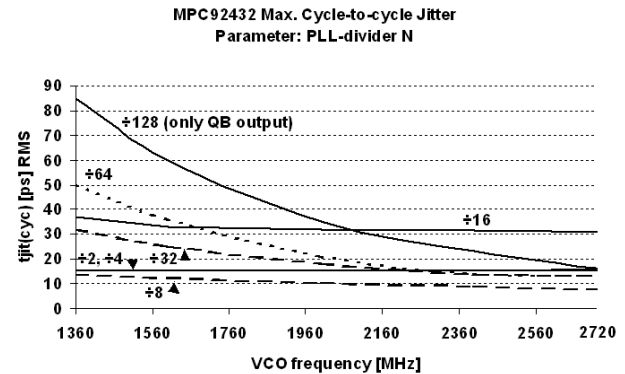
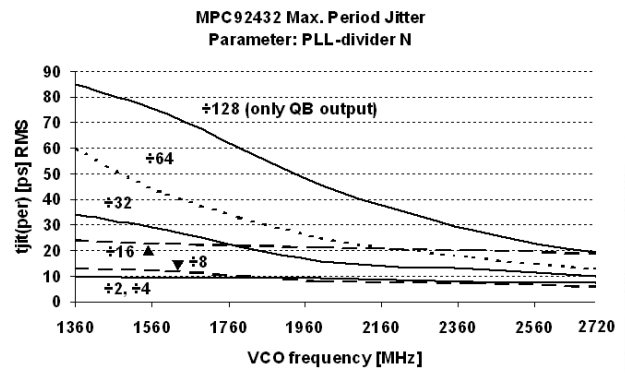

Figure 8. MPC92432 Cycle-to-Cycle Jitter
Figure 9. MPC92432 Period Jitter
Figure 8 and Figure 9 illustrate the RMS jitter performance of the MPC92432 across its specified VCO frequency range. The cycle-to-cycle and period jitter is a function of the VCO frequency and the output divider N. The general trend is that as the output frequency increases (higher VCO frequency and lower N-divider) the MPC92432 output jitter decreases. Optimum jitter performance can be achieved at higher VCO and output frequencies. The maximum cycle-to-cycle and period jitter published in Table 6 (AC characteristics) correspond to the jitter performance at the lowest VCO frequency limit. The VCO frequency can be calculated using formula (2).